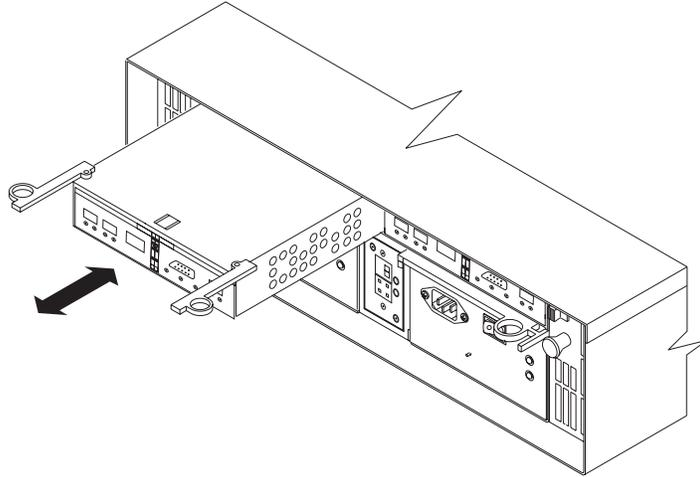

Figure 74. Installing a new RAID controller
20. Install the RAID controller, as shown in Figure 74 on page 95.